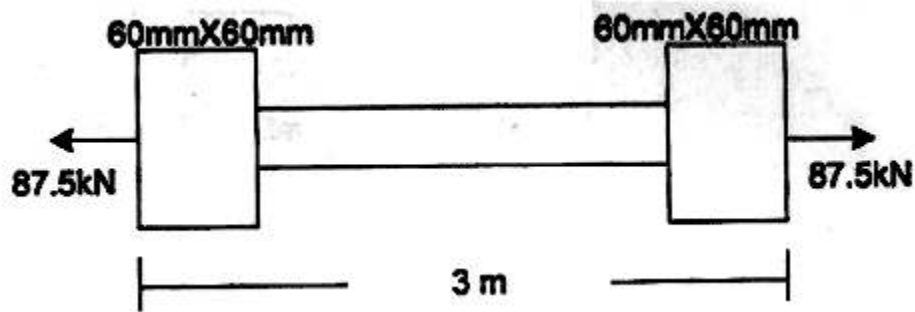

Fig. 2
- (b) A tie bar has enlarged ends of square cross-section $60 \text{ mm} \times 60 \text{ mm}$ as shown in Fig. 2. If the middle portion of the bar is also a square section, find the size and length of middle portion if stress there is 140 N/mm^2 and total elongation is 0.14 mm . Take $E = 2 \times 10^5 \text{ N/mm}^2$. [8]